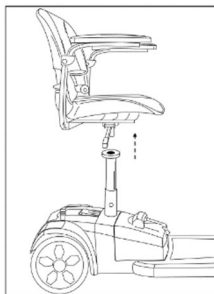

Figure 9
1. Fold the seat back down, grasp the seat on both sides and lift the seat up and off the seat pedestal. *See Figure 9. (Note: Seat arms can be removed to reduce the seat weight).*
1. Position the seat for safe and easy mounting. Ensure that the seat is facing forward. *See Figure 9 / Page 20.*